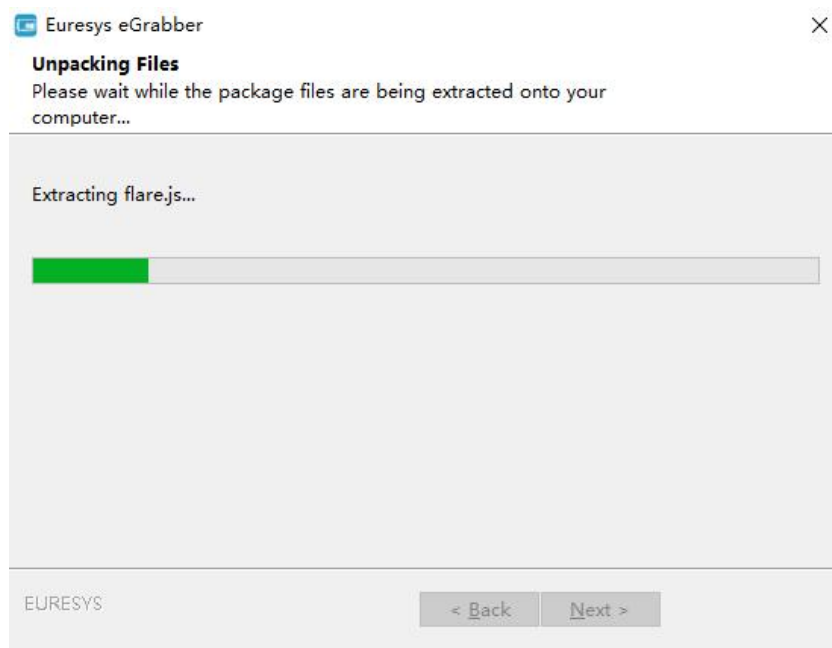

Figure 3-20
- 1) Loosen the 2 M3 screws on the camera's cover and remove the water-cooled pipe protective cover, as shown in Figures 3-20 and 3-21.